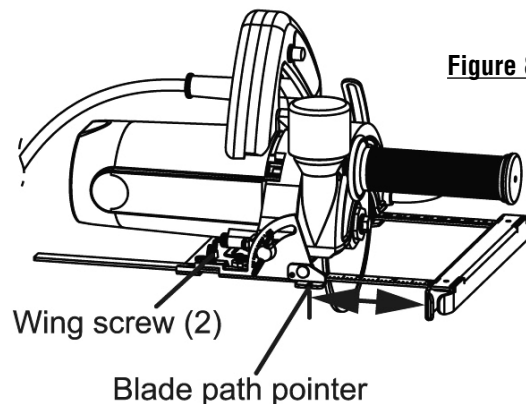

Figure 8
2. Slide the rip guide into the skid (see fig. 8).